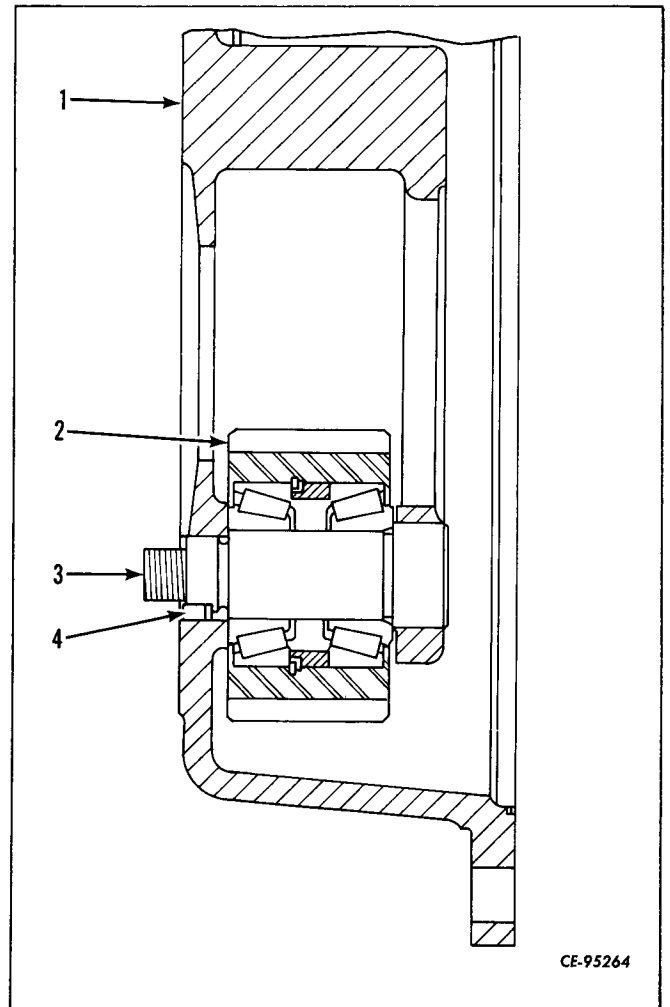

Figure 6-73
Press the planetary pinion shafts (3, Fig. 6-73) from the planetary carrier (1) using a hydraulic press. Exert the pressure on the small end of the pinion shafts.